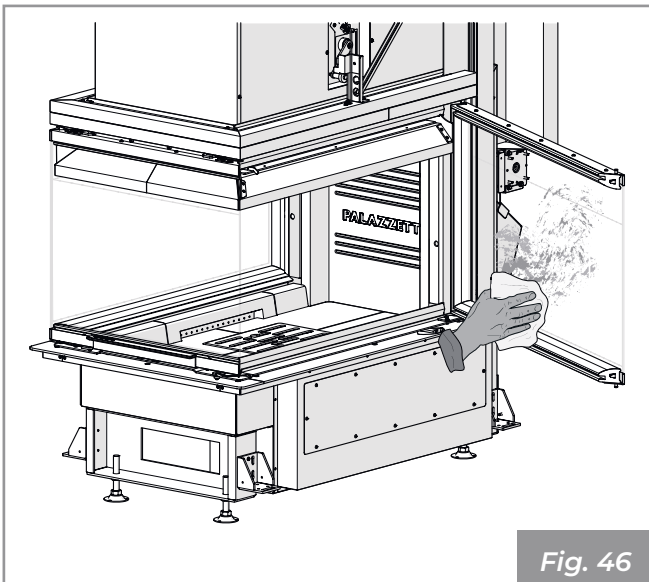

Fig. 46
- 3) Clean the glass with a damp cloth or with paper moistened and dabbed in the ashes (Fig. 46). You can also use detergents suitable for cleaning kitchen ovens.